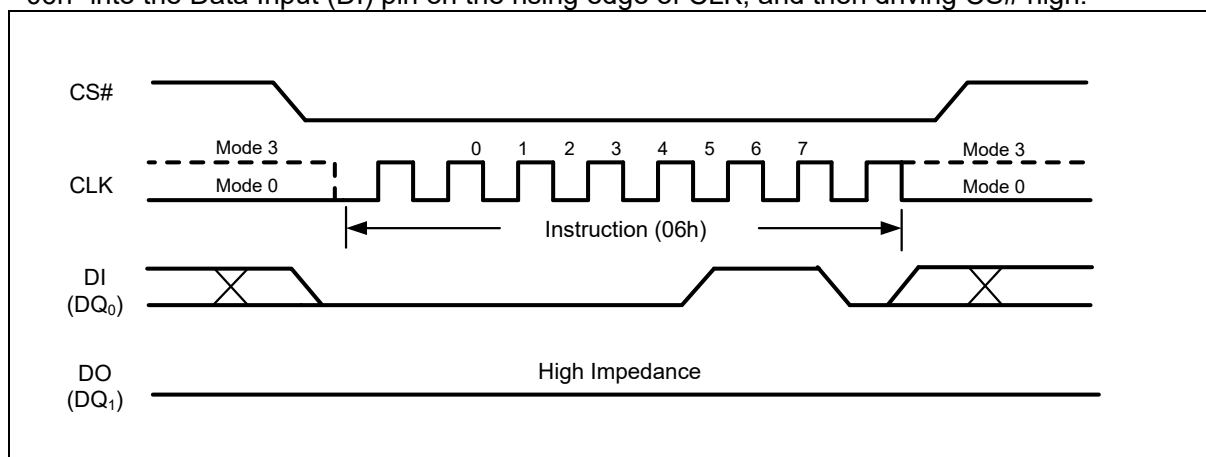

Figure 4 Write Enable Instruction
Instructions vary in length from a single byte to several bytes and may be followed by address bytes, data bytes, dummy bytes (don't care), and in some cases, a combination. Instructions are completed with the rising edge of edge CS#. Clock relative timing diagrams for each instruction are included in Figure 4 through Figure 26. All read instructions can be completed after any clocked bit. However, all instructions that Write, Program or Erase must complete on a byte boundary (CS# driven high after a full 8-bits have been clocked) otherwise the instruction will be ignored. This feature further protects the device from inadvertent writes. Additionally, while the memory is being programmed or erased, or when the Status Register is being written, all instructions except for Read Status Register will be ignored until the program or erase cycle has completed.
The Write Enable (WREN) instruction (Figure 4) sets the Write Enable Latch (WEL) bit in the Status Register to a 1. The WEL bit must be set prior to every Page Program, Sector Erase, Block Erase, Chip Erase, Write Status Register and Erase/Program Security Sectors instruction. The Write Enable (WREN) instruction is entered by driving CS# low, shifting the instruction code "06h" into the Data Input (DI) pin on the rising edge of CLK, and then driving CS# high.